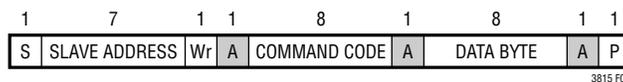

Figure 3. Write Byte Protocol
Figures 3 through 6 illustrate the aforementioned PMBus protocols. All transactions support GCP (group command protocol).
- Examples of these formats are shown in Figures 3 through 7.